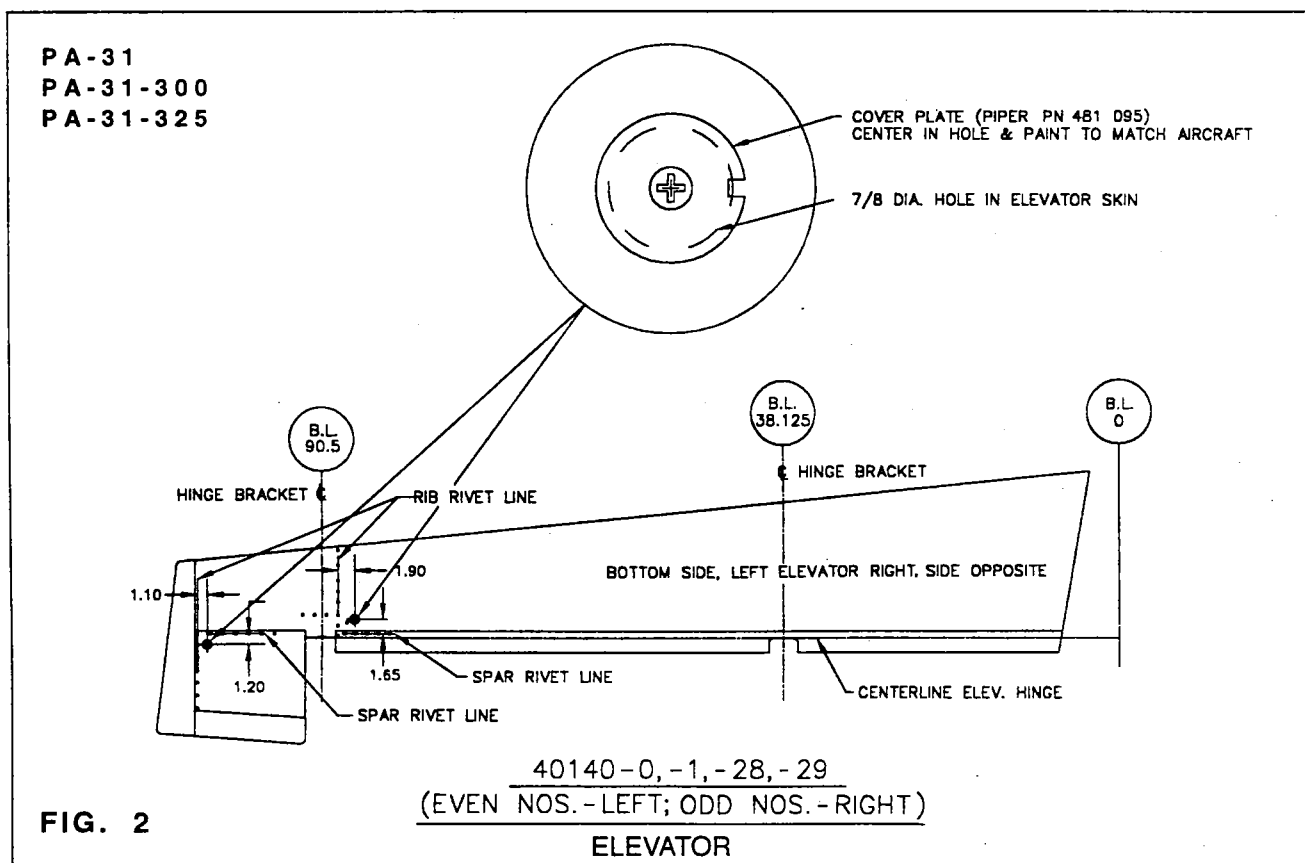

FIG. 2
**INSTRUCTIONS:** (CONT'D)**Elevator Ice Protection Boot Inspection and Installation:** (Refer to Sketch C Fig.2)
**MATERIAL REQUIRED:** Four (4) each, Cover Plate, Piper Part Number 481-095, per airplane. As required by inspection two (2) each, Boot, Piper Part Number 44322-02, per airplane. If desired to relieve the repetitive inspection order the following: One (1) each Elevator Assembly (**See the Material Required Table on page 4.**)